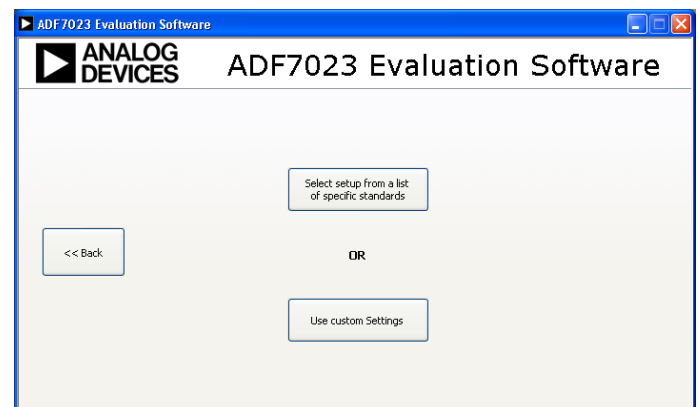

Figure 7
6. The Evaluation screen will guide you through the setup which fits your requirements best. You can choose from a default list of specific standard configurations or choose a setup you have already saved. (Figure 7)